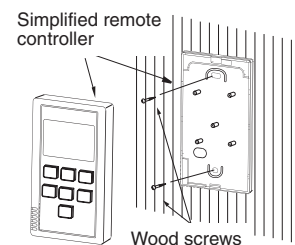

Fig. 3-3-6
5. Secure the back case to the wall with the wood screws (supplied). (See Fig. 3-3-6)